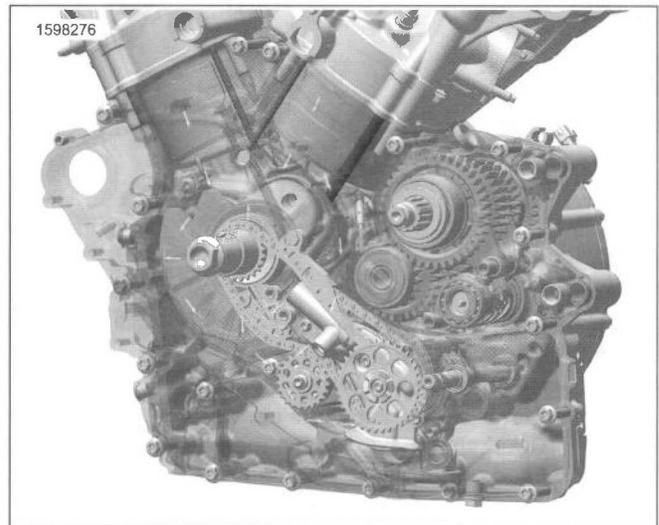

Figure 4-4. Crankshaft Cavity
3. See Figure 4-4. The crankshaft cavity, located in the center of the engine around the crankshaft, catches excess oil from the following areas.